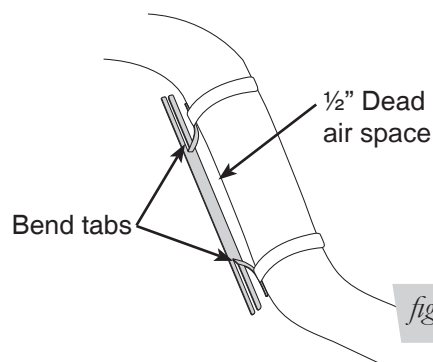

fig. 13
- Bend tabs to provide a 1/2" dead air space between exhaust pipe and heat shield (fig. 13).
- Attach the heat shield to the exhaust pipe using the clamps. Bend the heat shield for maximum clearance to the air spring (fig. 13).